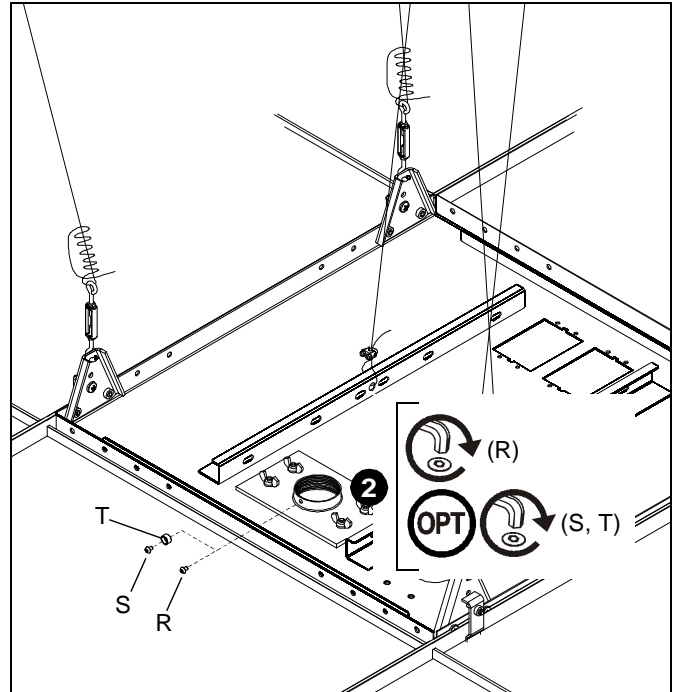

Figure 15
2. Using hex key (U), secure extension column by *one* of the following methods (See Figure 15):
- Install screw (R) into extension column support, tightening firmly against column.
- **OPTIONAL:** Install security screw (S) through locking collar (T) into extension column support, tightening firmly against column.